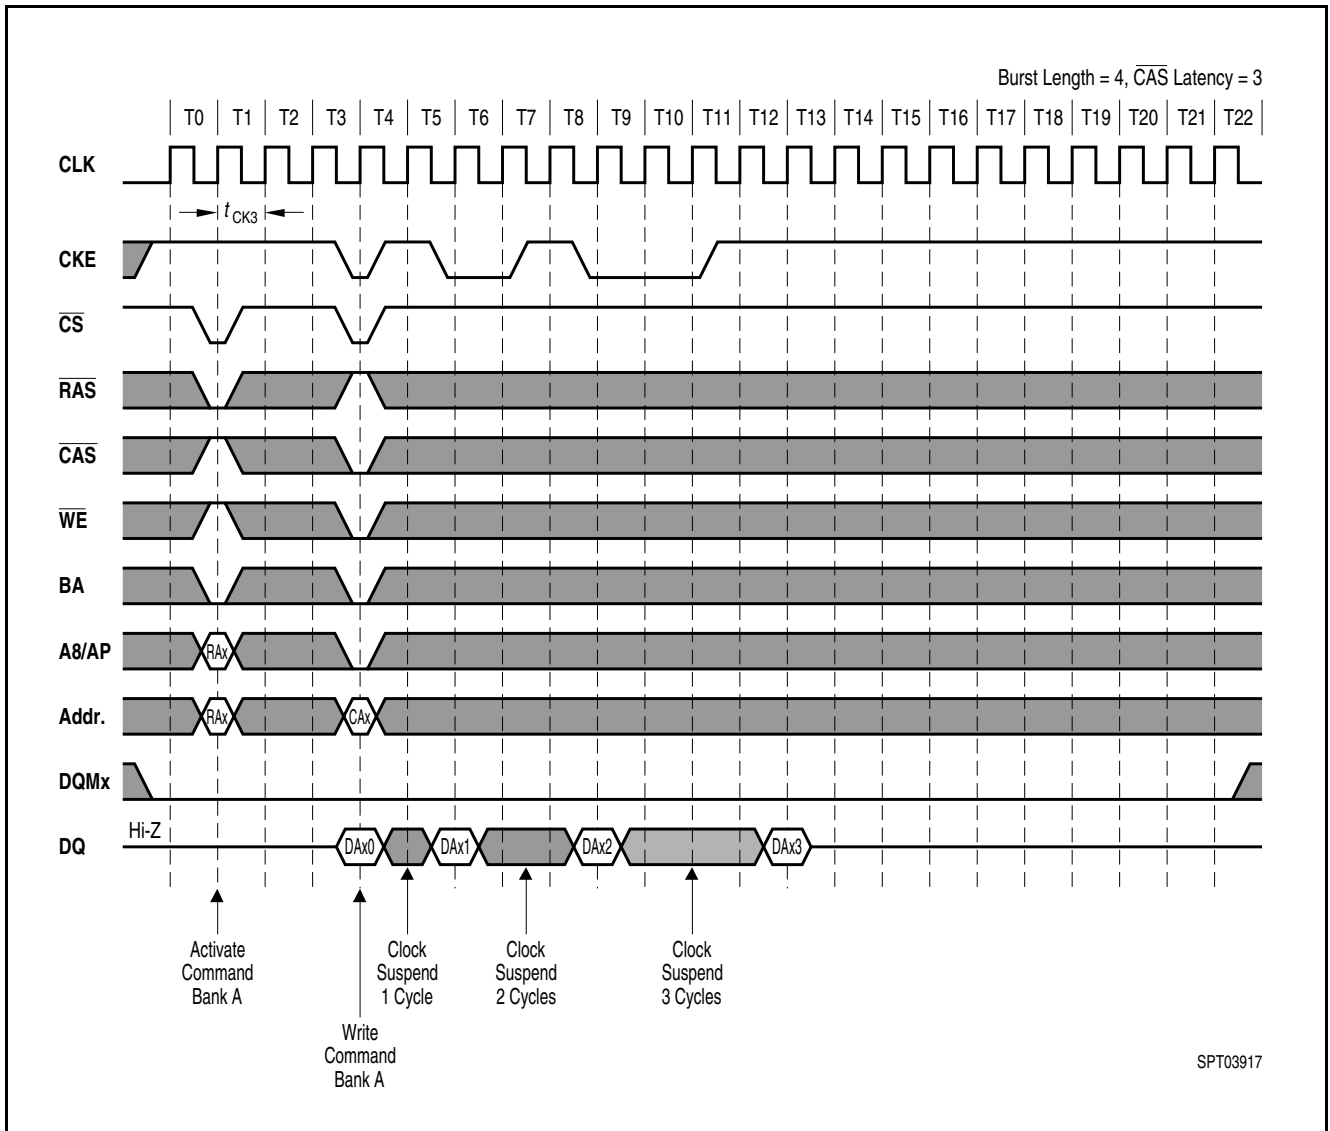

Figure 23 Clock Suspension During Burst Write CAS Latency = 3
- **Figure 23** Clock Suspension During Burst Write CAS Latency = 3